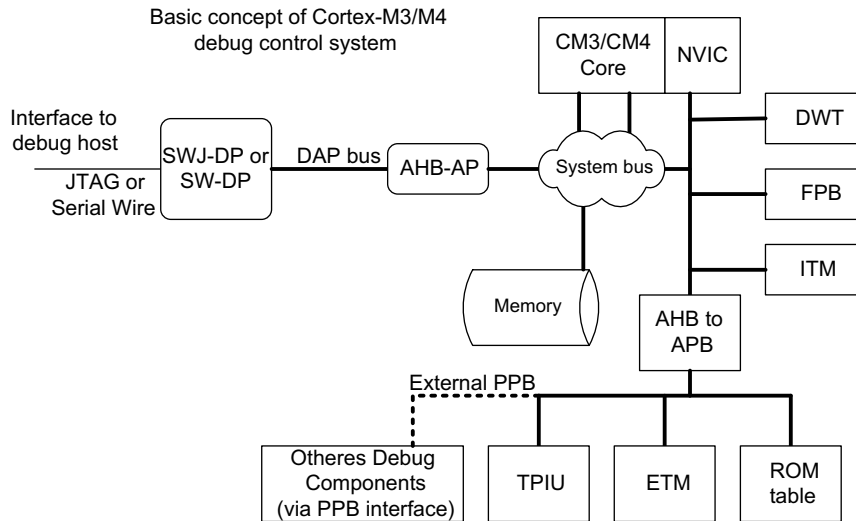

FIGURE 14.9
- The debug components are part of the system memory map, whereas in standard CoreSight systems, a separate bus (potentially with a separate memory map) is used for controlling debug components. For example, the conceptual CoreSight debug system connection in a Cortex-R processor can be like the one shown in Figure 14.8, whereas the Cortex-M3/M4 debug components are part of the system memory space, as shown in Figure 14.9.